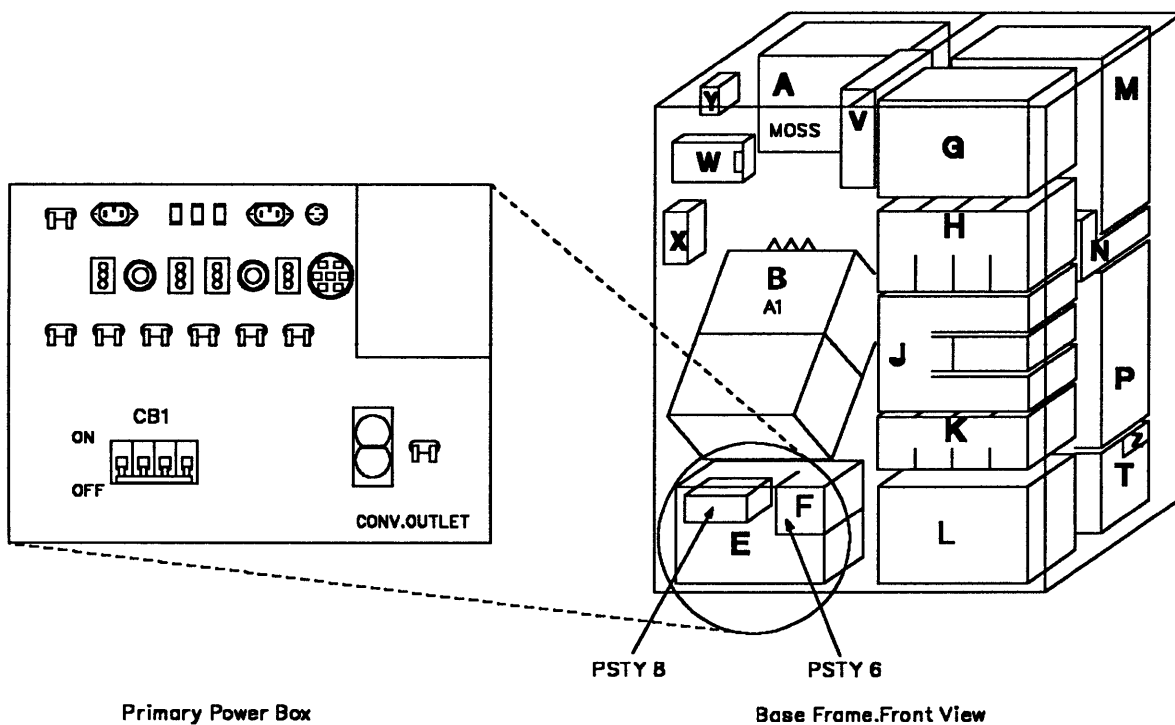

Figure 5-144. Primary Power Box
3. Switch CB1 OFF. Refer to Figure 5-144
11. Switch CB1 ON, refer to Figure 5-144 on page 5-143.